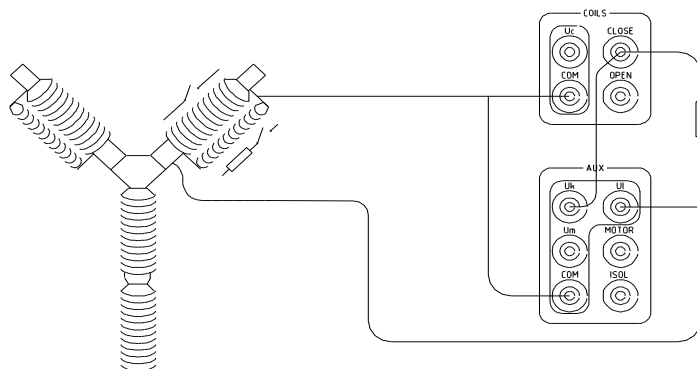

Figure. 2.5 Connections for resistance measurement of a pre-insertion resistor
See **figure 2.5**. Make sure that the Resistor itself and connections to the reference resistor **are well isolated**.
**Connect the breaker coils to the SA10A for a normal CO-operation** (not shown in figure 2.5).